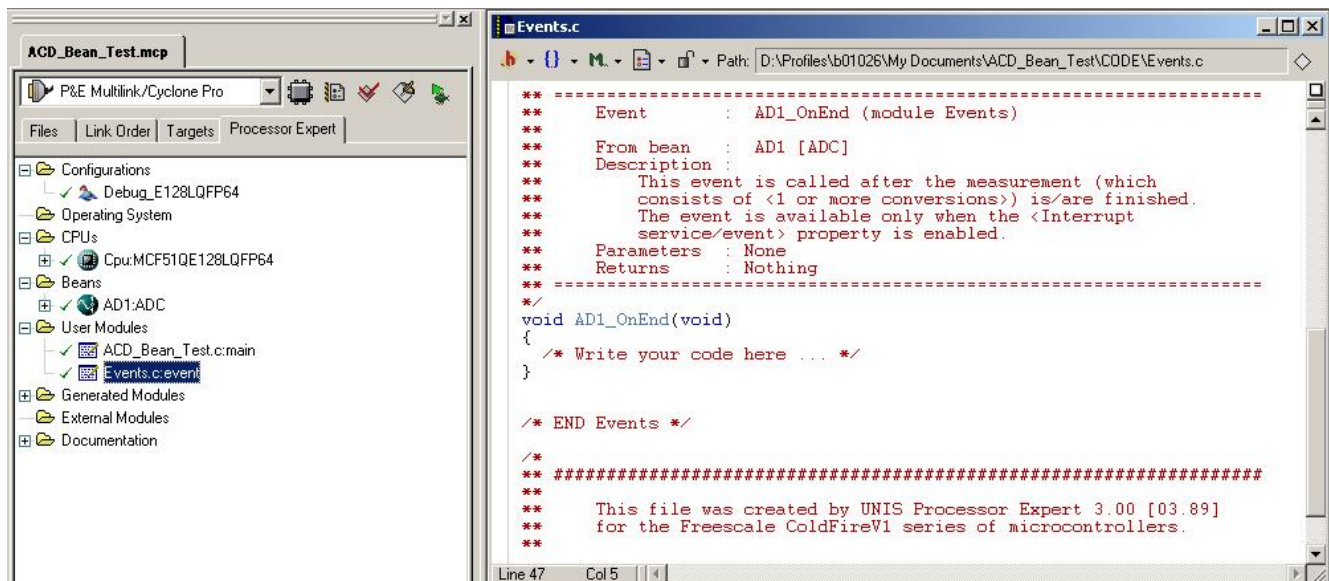

Figure 30. Events.c File for ADC Bean
8. Edit the function executed on the OnEnd event. In the file Events.c there is a function named AD1_OnEnd. This file is in the User Modules folder on the left panel. The code to be executed must be placed inside the AD1_OnEnd function (Figure 30).